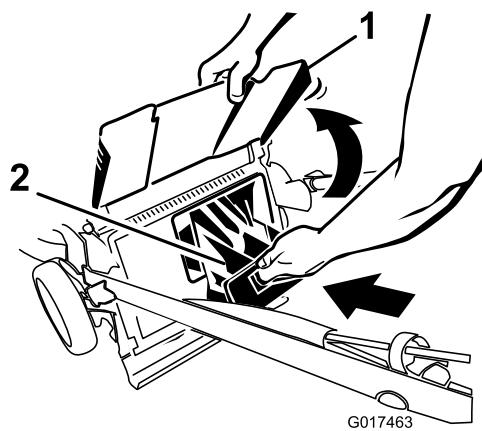
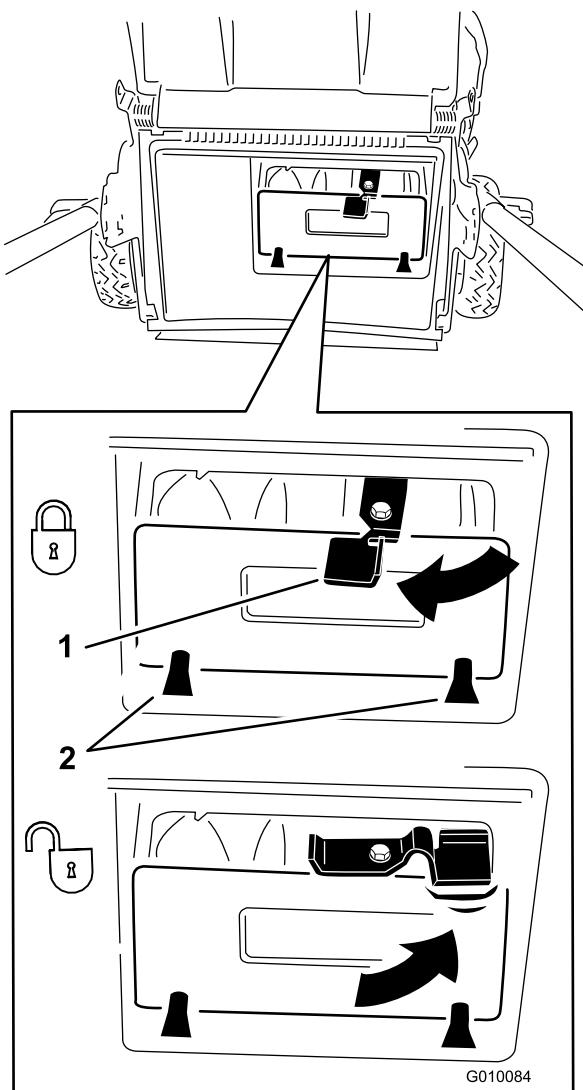

Figure 17
Figure 18
**Important:** Ensure that the rear-discharge plug is locked in place. To lock the plug: Raise the discharge deflector (Figure 17), firmly push the plug in until it snaps into place behind the tabs, and rotate the lever on the plug to the left (Figure 18).
**Note:** To unlock the plug, rotate the lever on the plug to the right (Figure 18).